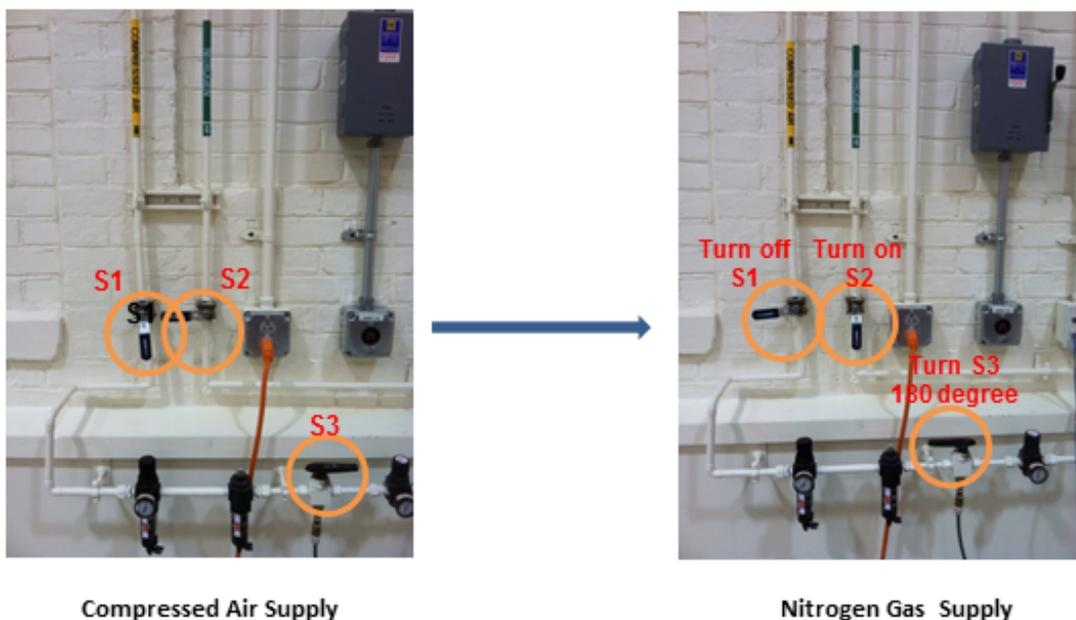

Figure 9: Switch Gas Supply from Compressed Air to Nitrogen Gas
It is highly recommended to use the nitrogen gas for low the temperature operation due to possible moisture condensation even iced-up inside of the probe occurring at the low temperatures. The compressed air gas supply setup is shown in Figure 9, in which **S1** is at **on** position, **S2**, is at **off** position, and **S3** is pointing to the **left**. To switch the gas supply to the nitrogen gas, first turn on **S2**, then turning **S3** to the right, and finally turn off **S1**, as shown in Figure 9.
11. Switch the gas supply from the nitrogen gas to the compressed air. To do so, refer to Figure 9 and the section 3.1.2. First turn on **S1**, then turn the switch **S3** by 180° such that it is pointing to the left. Finally turn off **S2**.